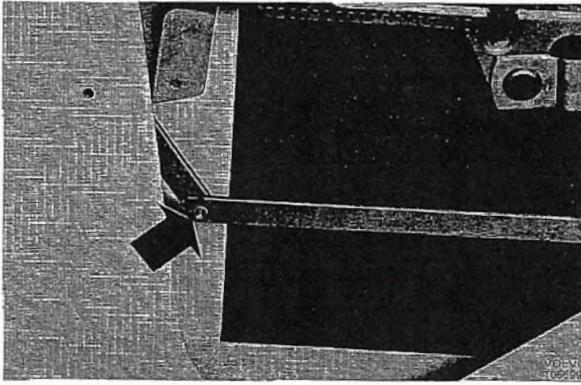

Fig. 8-15. Locking for remote control lever
2. Remove the locking for the remote control lever (see Fig. 8-15).